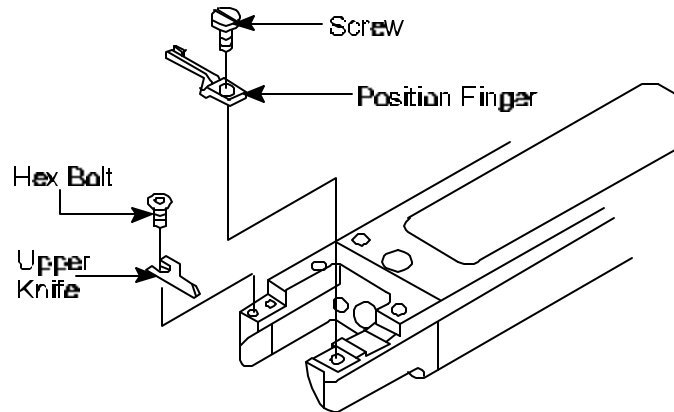

Figure 1
- Using 2 mm Allen Wrench, **remove** Upper Knife hex bolt (**MK 4 Trimmers** only apply). See *Figure 1*.